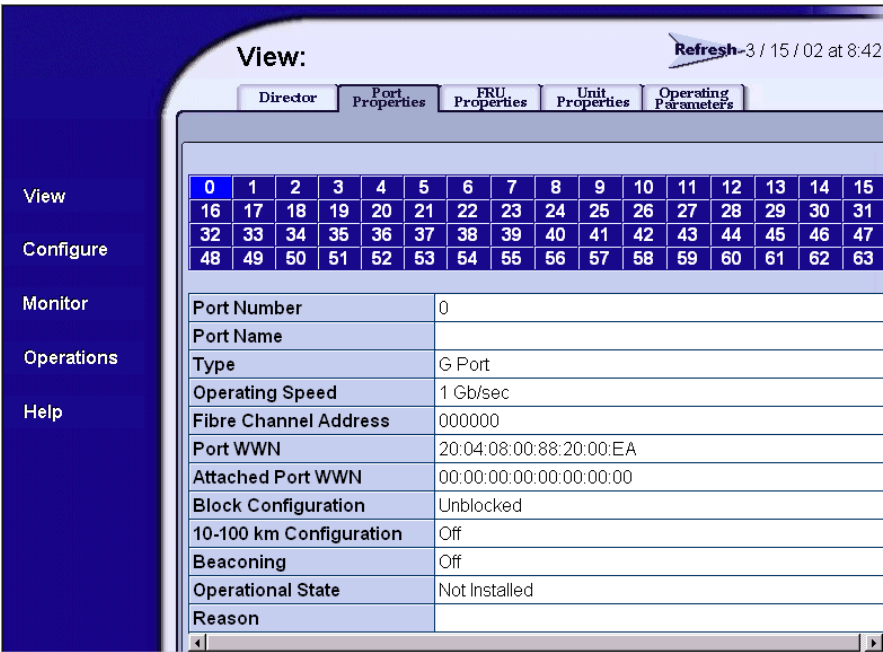

Figure 3-10 SANpilot Interface, View Panel
- a. At the *View* panel, click the *Port Properties* tab. The *View* panel (*Port Properties* tab) displays with port **0** highlighted (Figure 3-10).